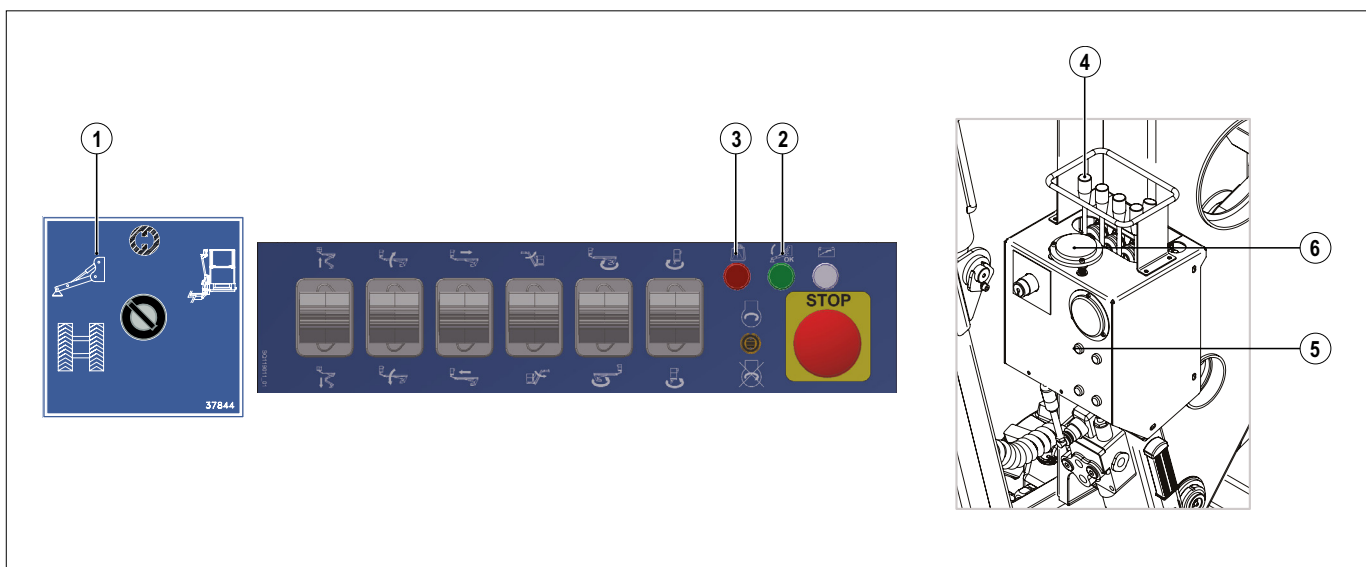

FIG. 29 (Stabilising the elevating work platform (MEWP))
BEFORE CARRYING OUT THE STABILISATION PROCEDURE, ENSURE THAT THE JIB IS FULLY CLOSED AND THAT THE PLATFORM CLOSED LED (FIG. 29 - REF. 3) IS LIT.
- 2) Check that the controls are in the stabilisers/ traction position (FIG. 29 - Ref. 1).
- 3) Ensure that the stabiliser light (FIG. 29 - Ref. 3) is not lit: This would indicate a malfunction in the stabiliser limit switches.
- 4) Lower the stabilisers by operating the proportional levers in turn (FIG. 29 - Ref. 4). Moving the levers upwards retracts the stabilisers, while moving them downwards extends them.
- 6) Check that the lights are on (FIG. 29 - Ref. 5).
- 8) Check that the light (FIG. 29 - Ref. 3) indicating consent for superstructure manoeuvres has come on. If you have the optional inclinometer see **sect. 20.3**:
THE INDICATOR LIGHTS (FIG. 29 - REF. 5) COMING ON DOES NOT MEAN THAT THE MACHINE HAS BEEN PROPERLY STABILISED. THIS IS ONLY INDICATED BY THE LEVELLING SPIRIT LEVEL (FIG. 29 - REF. 6). BEFORE GETTING ONTO THE PLATFORM, MAKE SURE THAT THE MACHINE IS PROPERLY STABILISED: CARRIAGE LIFTED AND LEVEL, RESTING ON SUITABLY FIRM GROUND. IF THE GROUND IS NOT FIRM ENOUGH TO WITHSTAND THE WEIGHT, USE PLANKS THAT ARE SUITABLE FOR THE PURPOSE AND THAT HAVE BEEN CHECKED BEFORE USE.